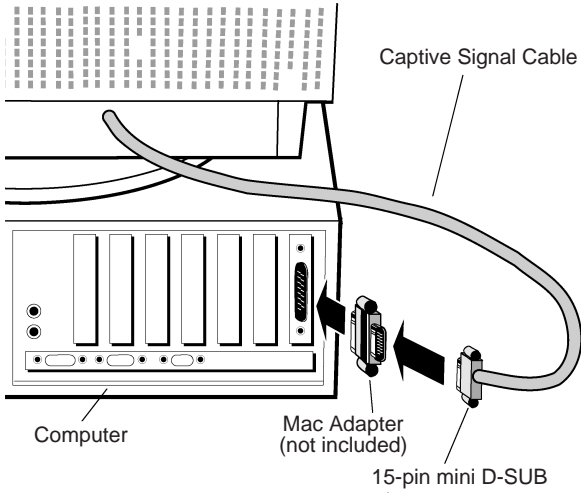

Figure B.1
**For the Mac:** Connect the MultiSync A500+ or MultiSync A700+ Macintosh Cable Adapter (not included) to the monitor connector on the Macintosh (Figure B.1). Attach the 15-pin mini D-SUB end of the captive signal cable to the Macintosh cable adapter on the computer (Figure B.1). Tighten all screws.